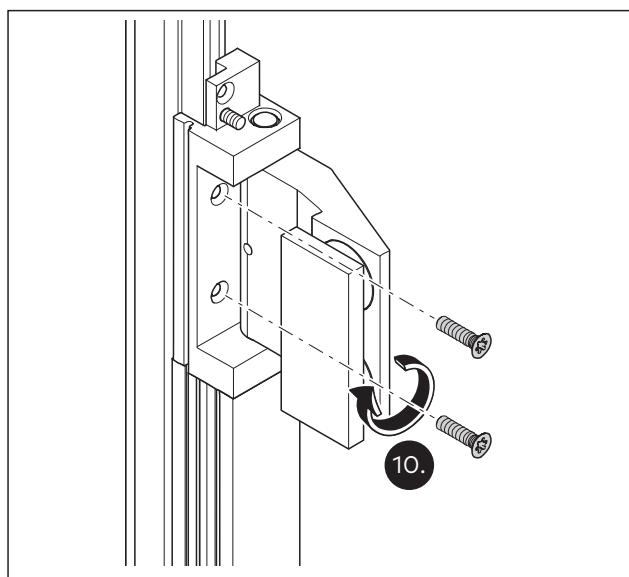

Fig. 37 Temporarily attach the door hinge in the center
10. Temporarily attach the door hinge with 2 screws through the central drill holes in the base profile for the door frame (Fig. 37).